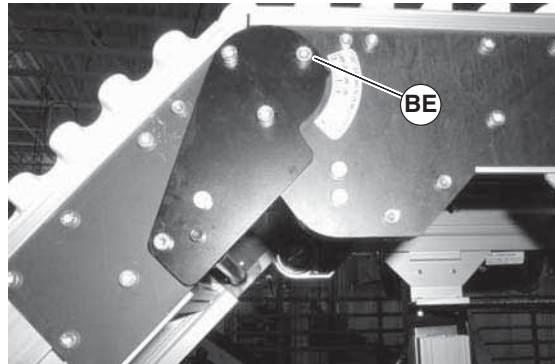

Figure 45
2. Place temporary support (Figure 45, item BF) under conveyor sections.